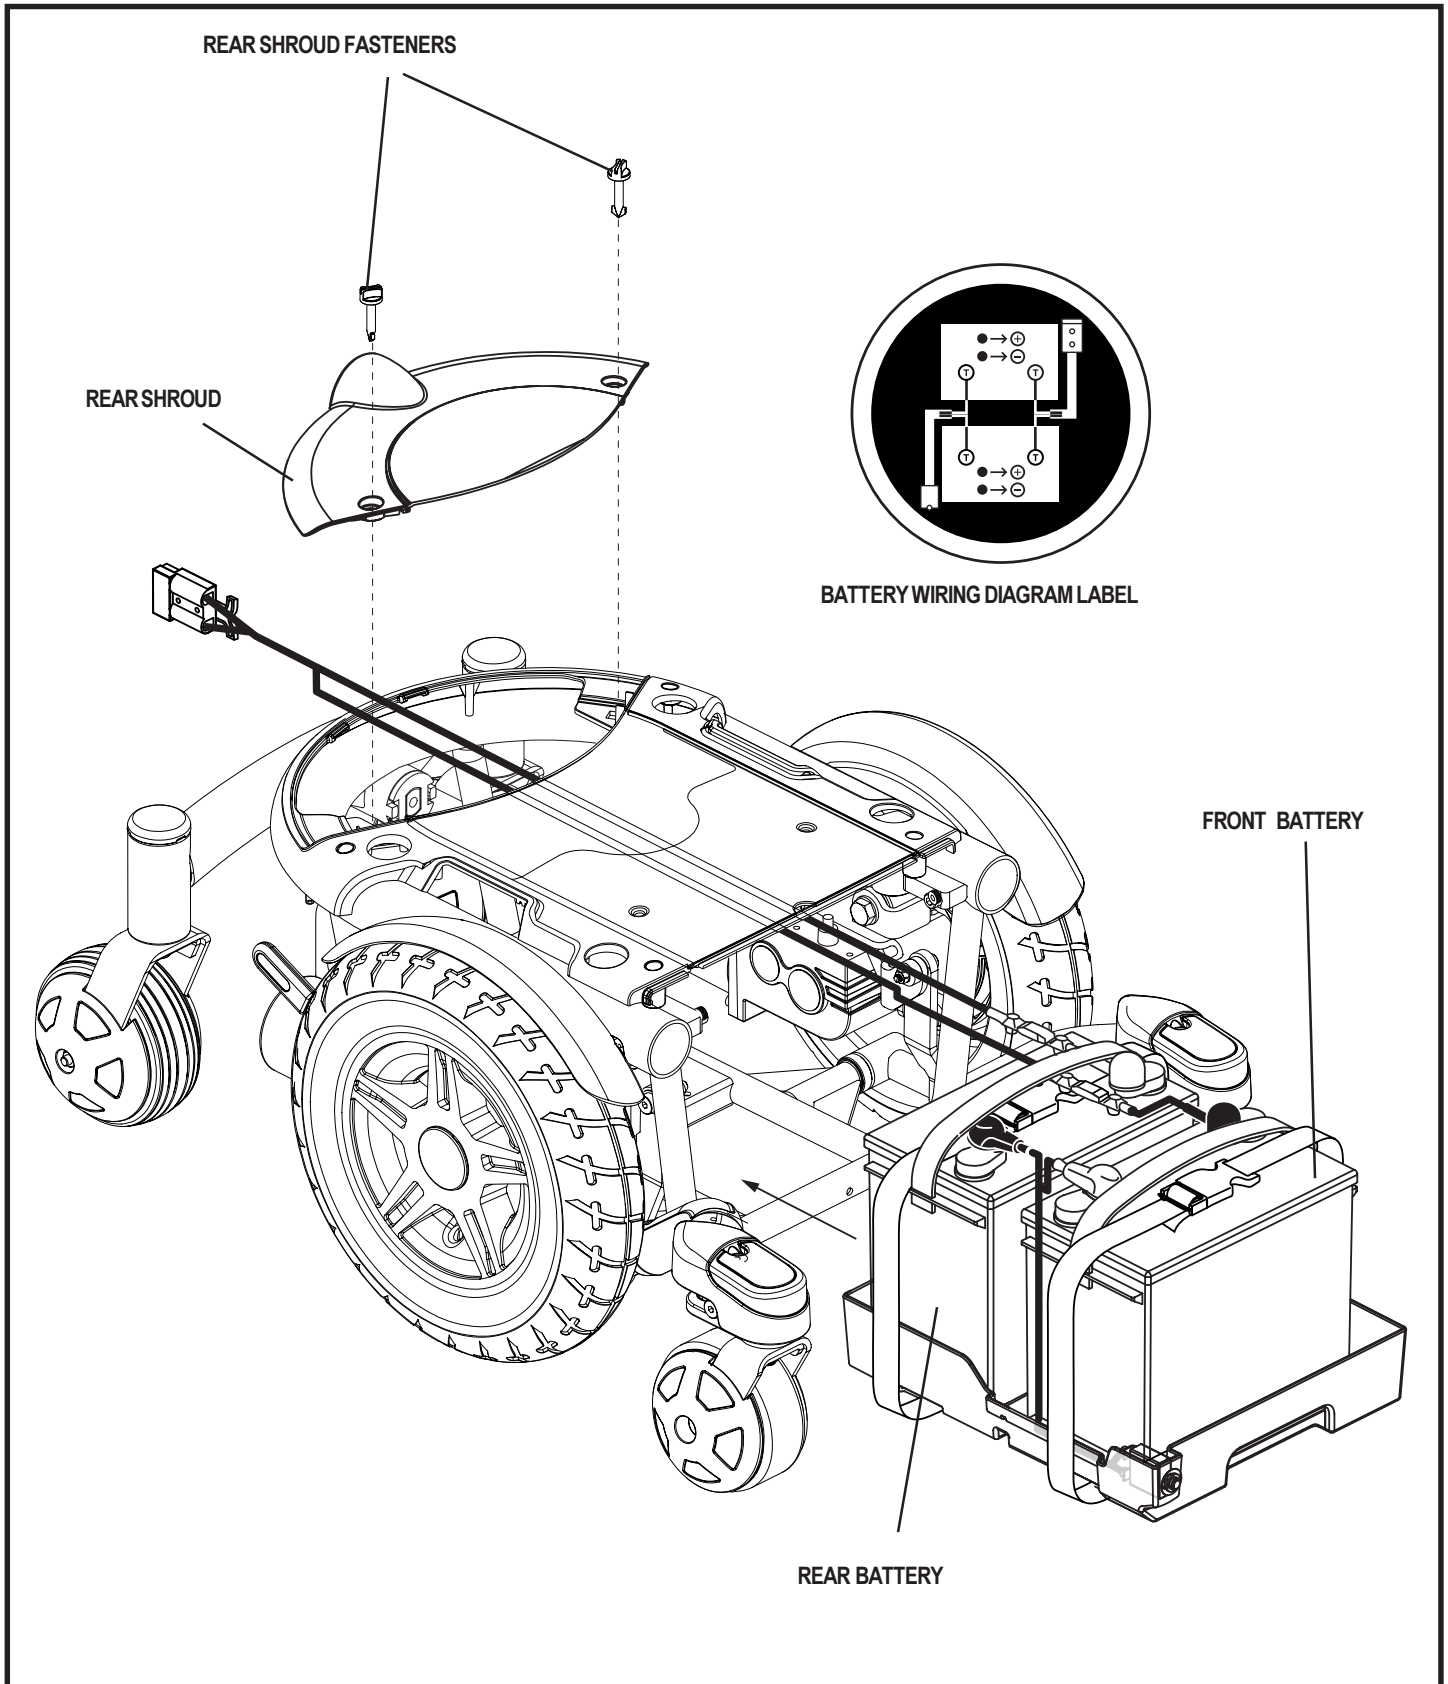

Figure 26. Battery Installation
3. Turn the rear shroud fasteners counterclockwise one-quarter turn in any direction. See figure 26.
13. Connect the battery harness to the front battery according to the battery wiring diagram. See figure 26.